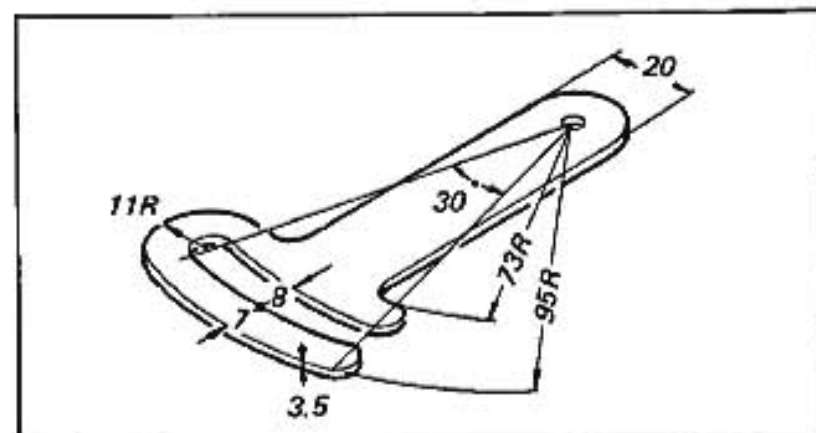

Fig. 10-6 A handmade tool for obtaining the proper clearance
S type screws ②①, ②②. At this time, tighten the S type screw ②② first and then the S type screw ②①. For easily obtaining the proper clearance between the motor pulley and the capstan motor, use of such a handmade tool as in Fig. 10-6 is recommended.
- 2) After inserting the four S type washers ⑫, ⑭, ⑯, ⑰ into the four B type screws ⑪, ⑬, ⑮, ⑱, install the motor